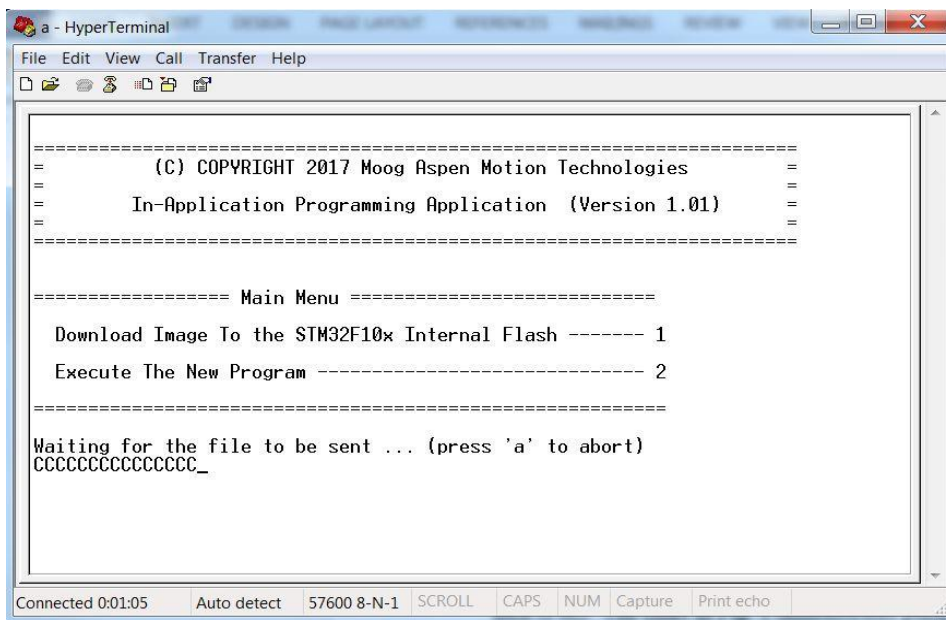

Fig. 2. Waiting for file download.
- (4) Type “1”. The text in Fig. 2 will appear indicating that the drive is ready for the binary programming file to be downloaded. While waiting for the file to be downloaded, the drive will continue to march “C’s” across the screen. At this point, the download can be aborted by typing “a”.